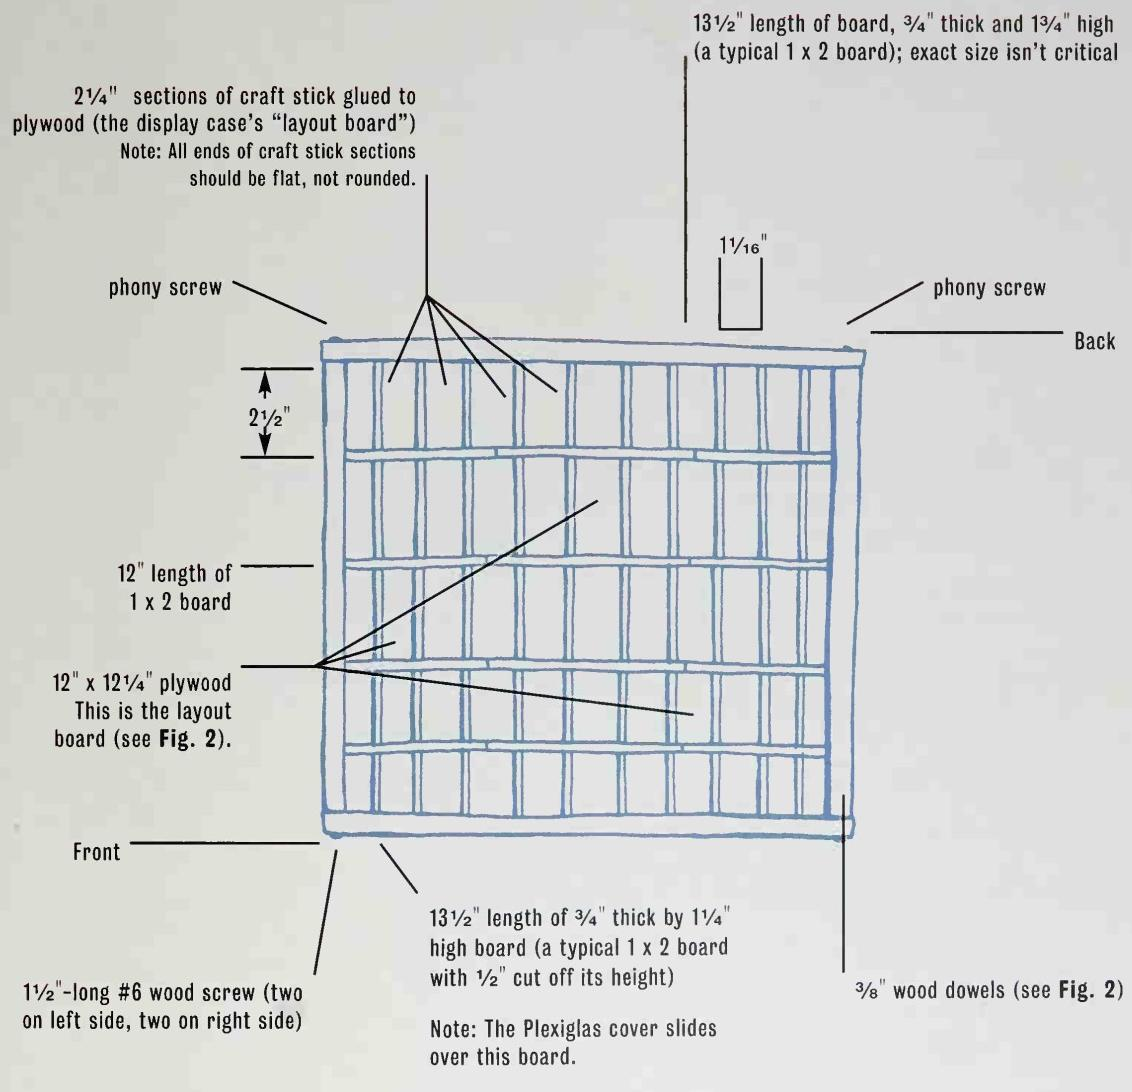

Fig. 1
4. Use four $1\frac{1}{2}$ "-long #6 wood screws to fasten the $13\frac{1}{2}$ " length of a $\frac{3}{4}$ " \times $1\frac{1}{4}$ " board to the front of the case (see Fig. 1).
9. Use tacky glue to fasten the twelve $3\frac{3}{4}$ " and forty-five $2\frac{1}{4}$ " pieces of craft sticks to the layout board as shown in Fig. 1.